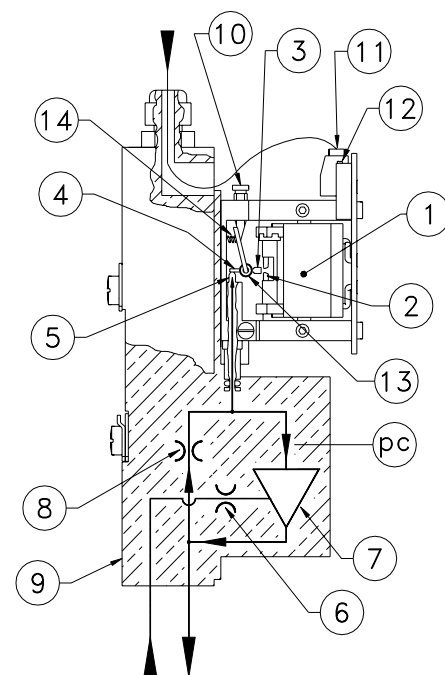

Fig. 2
3. Connect the wires to the screw terminals marked + and - (item 11 fig.2).
Note: The PC20 is factory set and should not require any commissioning. However, should the output signal be low then the zero may be adjusted by rotating the zero adjustment screw (item 10, fig.2).
3. Rotate screw (item 10, fig.2) until the output reaches the desired value. The PC20 is now commissioned.